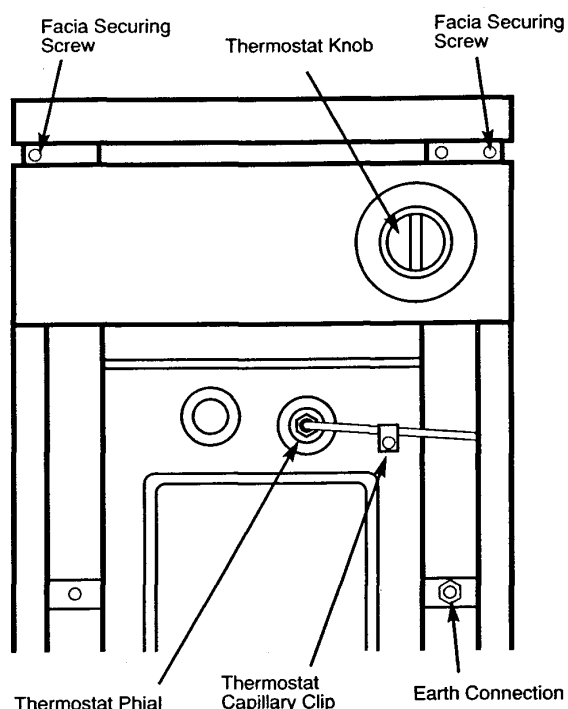

fig 8 - Boiler Thermostat
- 6) Push the thermostat phial into the thermostat pocket and clip the capillary behind the retaining clip (Fig. 8).
- 3) Remove the two fascia retaining screws (Fig 8) taking care not to lose the two spacer washers and allow the fascia to swing forwards on its hinges.
- 4) Release the thermostat capillary from behind its retaining clip and remove the thermostat phial from the boiler (Fig 8).